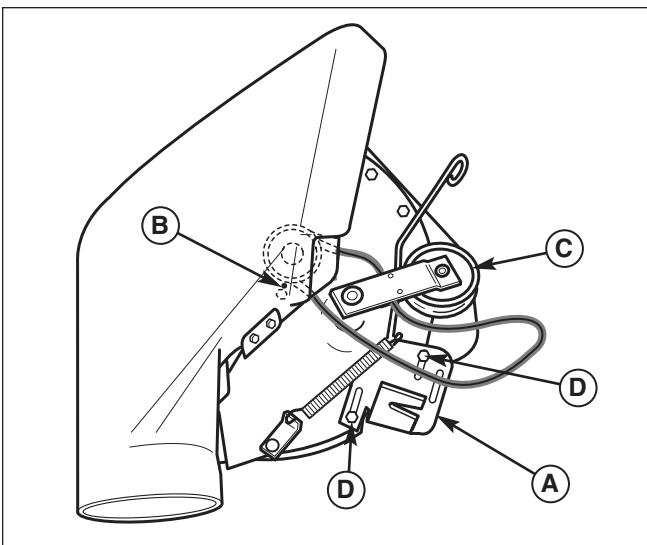
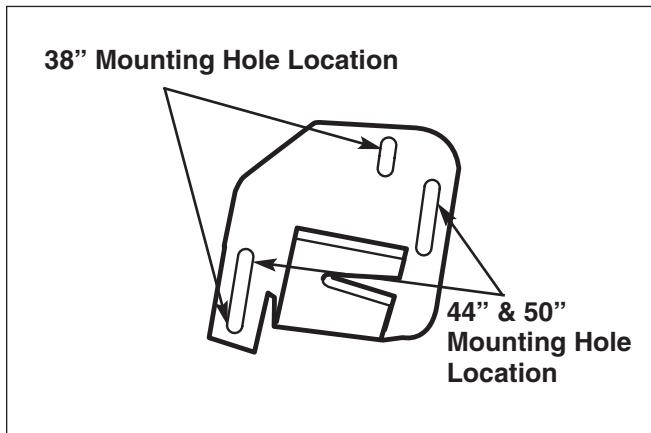
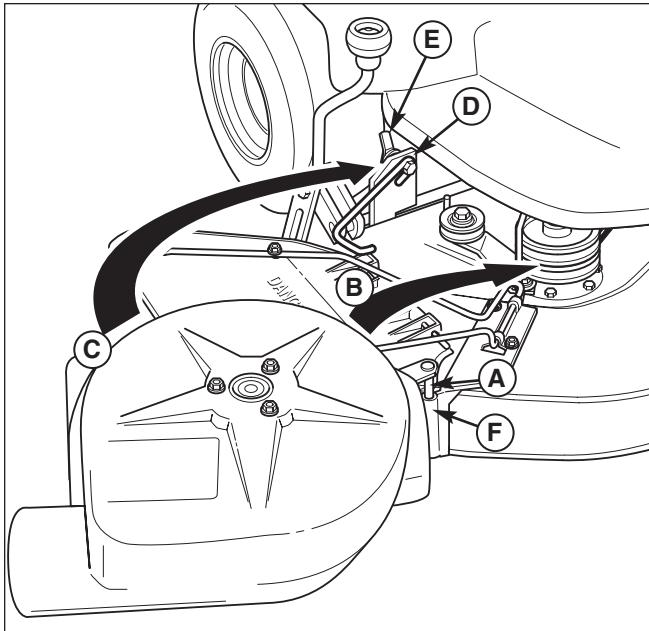

Figure 17. Belt Routing - 38" Models
Figure 16. Mounting Latch Holes
Figure 19. Install Turbo Blower
1. Select the correct belt for the mower deck used. See parts listing on page 6-7. Loosen the hardware securing the drive pulley belt guide (B, Figure 17 or 18) and the idler pulley (C).
2. Install the belt as shown in Figure 17 or 18.
3. Tighten the hardware securing the drive pulley belt guide (B, Figure 17 or 18) and the idler pulley (C) so the idler belt guide is within $1/16"$ (1.59mm) of the belt.
4. Remove and retain hardware (D, Figure 17 or 18). See Figure 16 for hole location. Install the mounting latch (A, Figure 17 or 18) reusing hardware (D). Latch may have to be repositioned later.
2. Slide the pivot pin (A, Figure 19) into pivot bracket (F).
3. Raise the deflector (B).
4. Rotate the turbo (C) and “latch” the slot in the turbo housing over and onto the anchor bracket (D). Slot in mounting latch (A, Figure 17 & 18) to be around outside nut. If not - reposition mounting latch on turbo. Tighten the wingnut (E) and cupwasher to secure turbo (C).